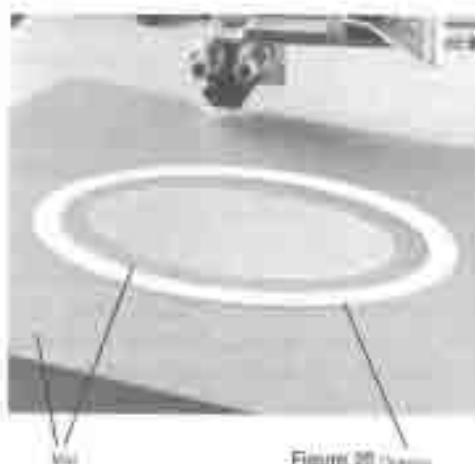

Figure 20
3. Glue the oval ring to the top of the mat, evenly spaced around the opening. See Figure 20.